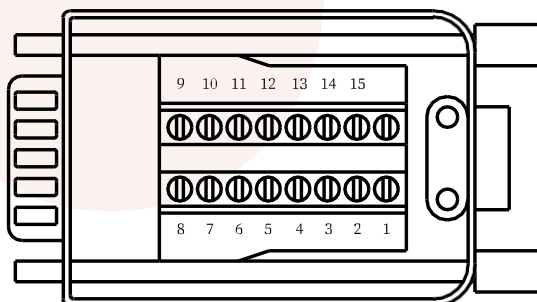

Figure 1.4 Schematic diagram of the control box I/O hardware port
(1) As shown in Figure 1.4 and Table 1.5, the robot control box provides: